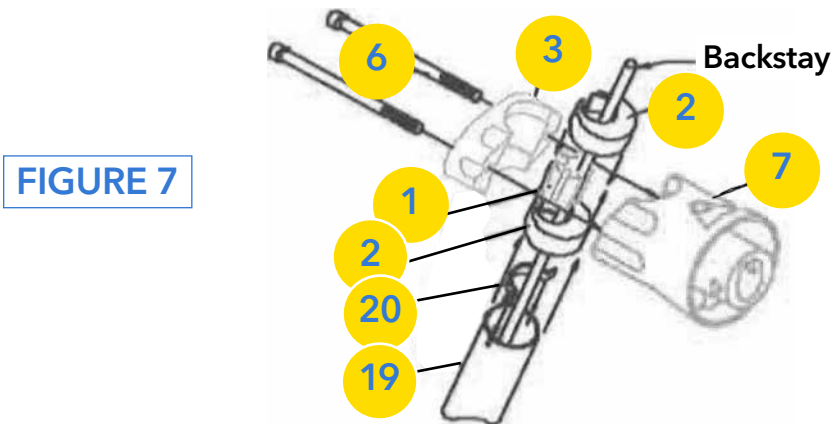

FIGURE 7
- ▶ For configurations #5 or #6, remove the backstay turnbuckle from the backstay and set it aside. If the chainplate clevis pin centerline runs fore and aft, a toggle must be added so that the Clevis Pin (10) centerline will be athwartships. With the Anti-rotation Clip (20) inserted into the top of the Mounting Pole (19); slide the pole into the Pivot Base Cone until the top touches the bottom side of the lower Backstay Bushing Housing (2). Apply Loctite to the clamping screws (6) and tighten the assembly (Figure 7).